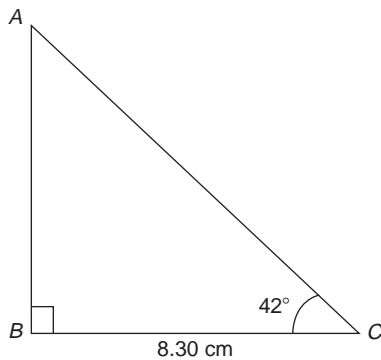

Figure M7
57. In the triangular template ABC shown in Fig. M7, the length AC is: